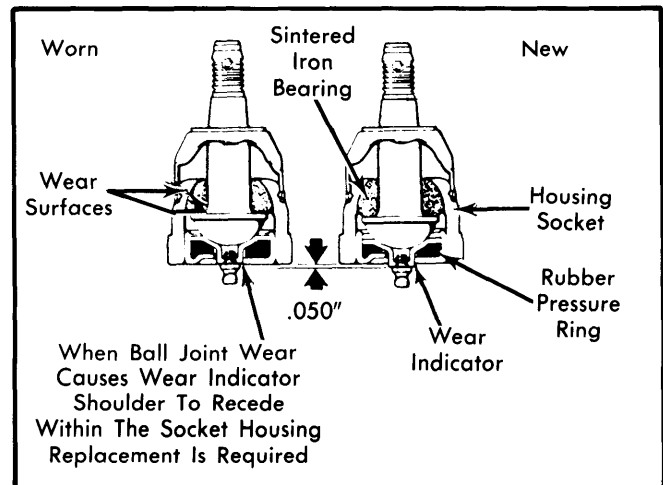

Fig. 1 General Motors Lower Ball Joint Wear Indicator (Ford Fairmont & Zephyr Similar)
**Lower Ball Joint (Exc. Corvette)** — Support vehicle on wheels or frame so lower ball joint is in a loaded condition. Ball joint features a visual wear indicator and is checked as follows: Wear is indicated by protrusion of  $\frac{1}{2}$ " diameter nipple into which the grease fitting is threaded. On a new, unworn joint, round nipple projects .050" beyond surface of ball joint cover. Normal wear will result in nipple retreating inward. If round nipple is flush with outside cover surface (see Fig. 1), ball joint must be replaced.
surface free of all grease or dirt. The round boss into which the grease fitting is threaded (checking surface) should extend outside the ball joint cover. If round boss is inside cover, replace lower control arm assembly. Similar to Fig. 1. Ball joints and lower control arm bushings are not serviced separately. Replace entire control arm, bushing and ball joint assembly. Ball joint seals may be replaced, however.